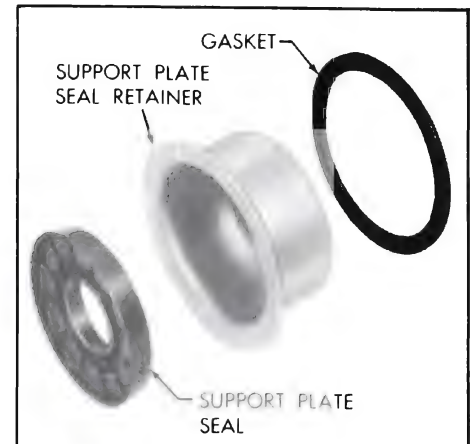

Figure 9-21—Support Plate Seal Assembly
7. Remove support plate seal retainer from center of front housing. Remove seal from inside retainer. From O.D. of retainer, remove gasket. See Figure 9-21.
6. Place new support plate seal in support plate seal retainer so that flat surface of cup lies against bottom of retainer. Place new gasket on O.D. of support plate seal retainer, and insert it into front housing so that gasket is between flange on retainer and surface of front housing. See Figure 9-21.